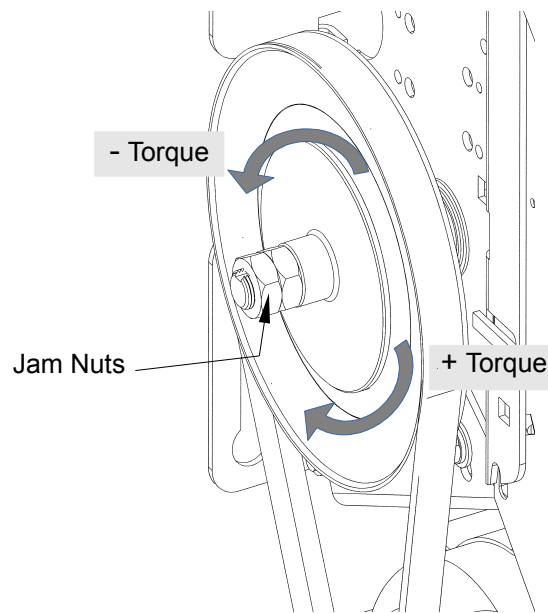

Figure 35 - Clutch Adjustment
1. Unlock the jam nuts with two (2) 15/16" keys, refer to Figure 35.